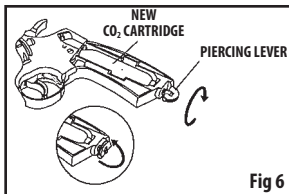

Fig 6
- With your thumb and finger, turn the piercing lever clockwise to pierce the CO₂ cartridge. (Fig. 6)